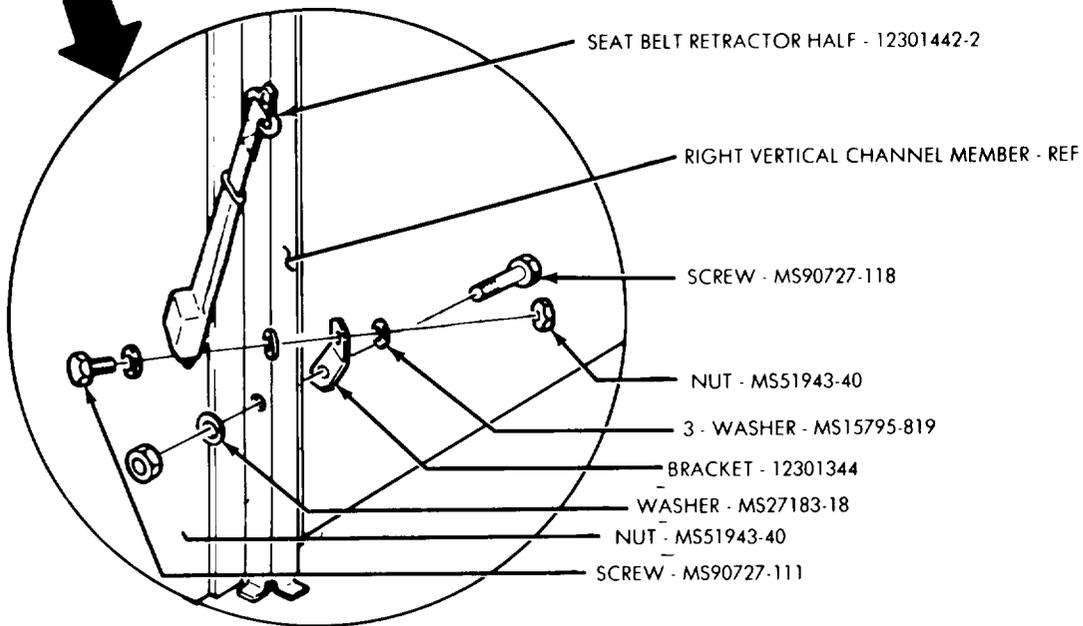

Figure B-11. Companion Seat Belt Retractor Installation
c. Position 123013144 bracket to right vertical cab channel member, and secure bracket with MS90727-118 screw, MS27183-18 washer, and MS51943-40 nut as shown in figure B-11. Tighten nut 20-25 lb-ft (27-34 N•m).
d. Position 12301442-2 seat belt retractor half to bracket and secure with MS90727-111 screw, three MS15795-819 washers, and MS51943-40 nut as shown in figure B-11. Tighten nut 20-25 lb-ft (27-34 N•m).